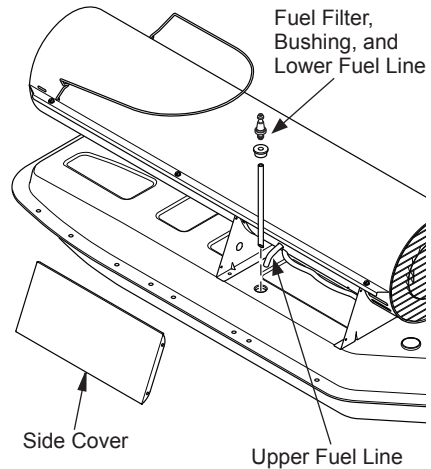

Figure 11 - Fuel Filter Removal
3. Pull upper fuel line off fuel filter neck (see Figure 11).
4. Carefully pry bushing, fuel filter, and lower fuel line out of fuel tank (see Figure 11).